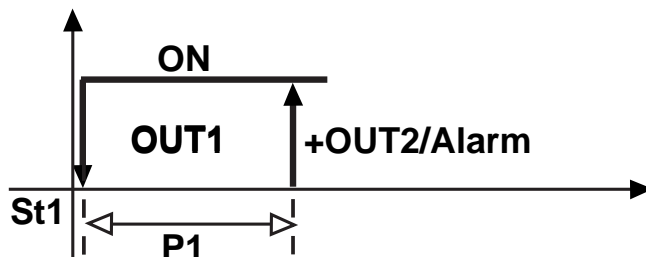

Fig.45
**Solution 2:** set C0=2 so that the Differential of NEUTRAL zone P3 will not be considered. Special parameters to be modified when C0=2 (use password 77). C33=1: C36=+100, C37=-100, C38=3 (the other parameters remain unchanged). P25, P26, P27 and P28 allow you to complete the programming step by setting the temperature alarms. The graph below (fig. 45) shows this control logic: